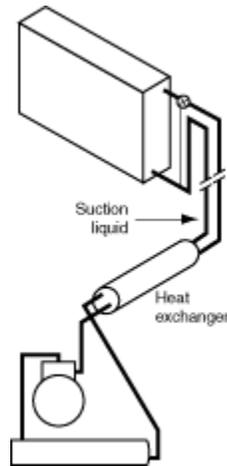

Figure 66F06A Use of heat exchanger in liquid and suction line to sub-cool the liquid in case of excessive static head.
- If, due to excessive static head, the above recommendations cannot be used a heat exchanger installed between the suction and liquid line in (Figure 66F06A) to sub-cool the liquid will accomplish satisfactory results. It is important that the heat exchanger be installed in a position that will not allow oil to be trapped in the suction side of it, which in turn reduces the oil level in the compressor.